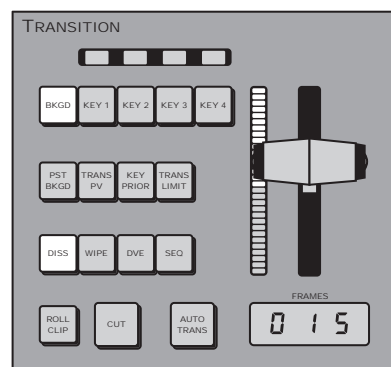

Figure 5.21 Performing Transition — Transition Module (4-Keyer Shown)
5. Move the fader from one limit to the other to perform the transition. The progress bar to the left of the fader handle shows your progress through the transition (Figure 5.21).
6. Press **AUTO TRANS** on the **Transition Module** to perform the transition. The progress bar to the left of the fader handle shows the progress of the transition (**Figure 5.21**).